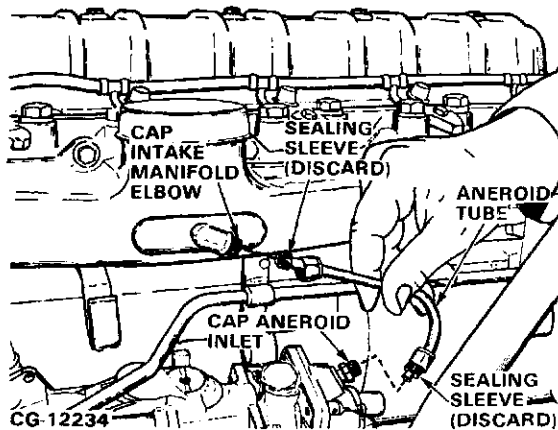

Figure 11.97. Remove Aneroid Tube
4. Remove the aneroid tube as follows: (Refer to Figure 11.97)